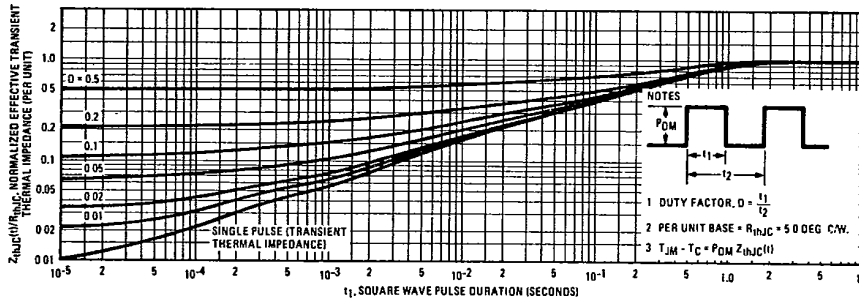

Fig. 5 - Maximum Effective Transient Thermal Impedance, Junction-to-Case Vs. Pulse Duration
① T_J = 25°C to 150°C. ② Pulse Test: Pulse width < 300μs, Duty Cycle < 2%. ③ Repetitive Rating Pulse width limited by max. junction temperature. See Transient Thermal Impedance Curve (Fig. 5).